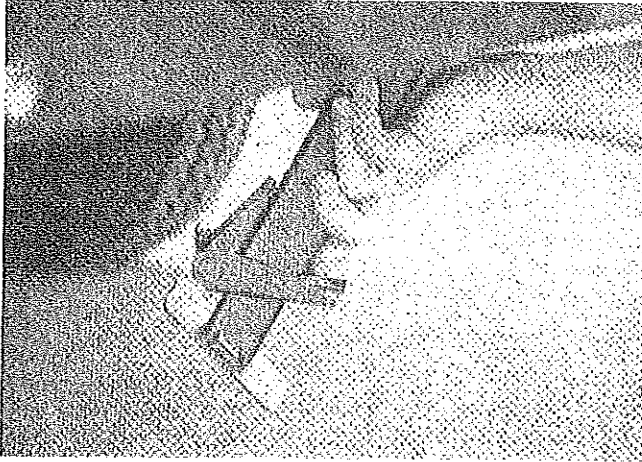

FIGURE 11
1. To release the stabilizer jacks from the locked travel position, reach under the corner of the trailer, firmly grasp the jack and push it toward the center of the trailer (approximately 1/2"), and swing down to lock the jack in the lowered position. See Figure 11.